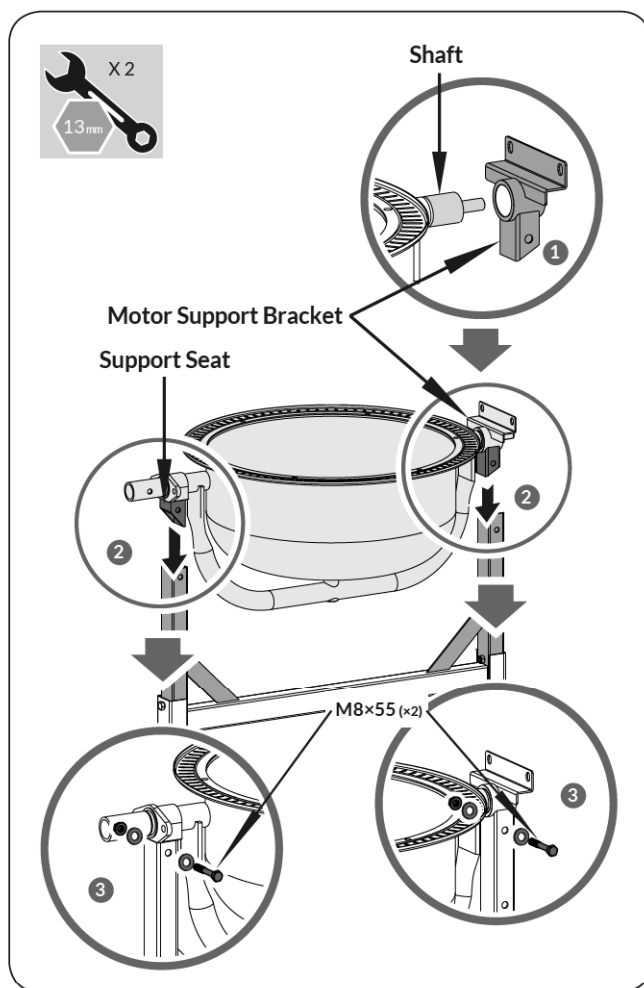

Figure 2
1. Slide the motor support bracket on the shaft. (See **Figure 2, illustration 1**)
2. Carefully place the bottom drum with support arm onto the side supports of the stand as shown. (See **Figure 2, illustration 2**). The motor support bracket and support seat should slide into the side support channel on each side. The larger diameter shaft should be at the leg end of the stand.
3. On each side, line up the holes in the side support with those in the motor support bracket and support seat, insert a M8×55 hex bolt from one side, then a flat washer, lock washer and nut from the other side. Tighten with a wrench. (See **Figure 2, illustration 3**)